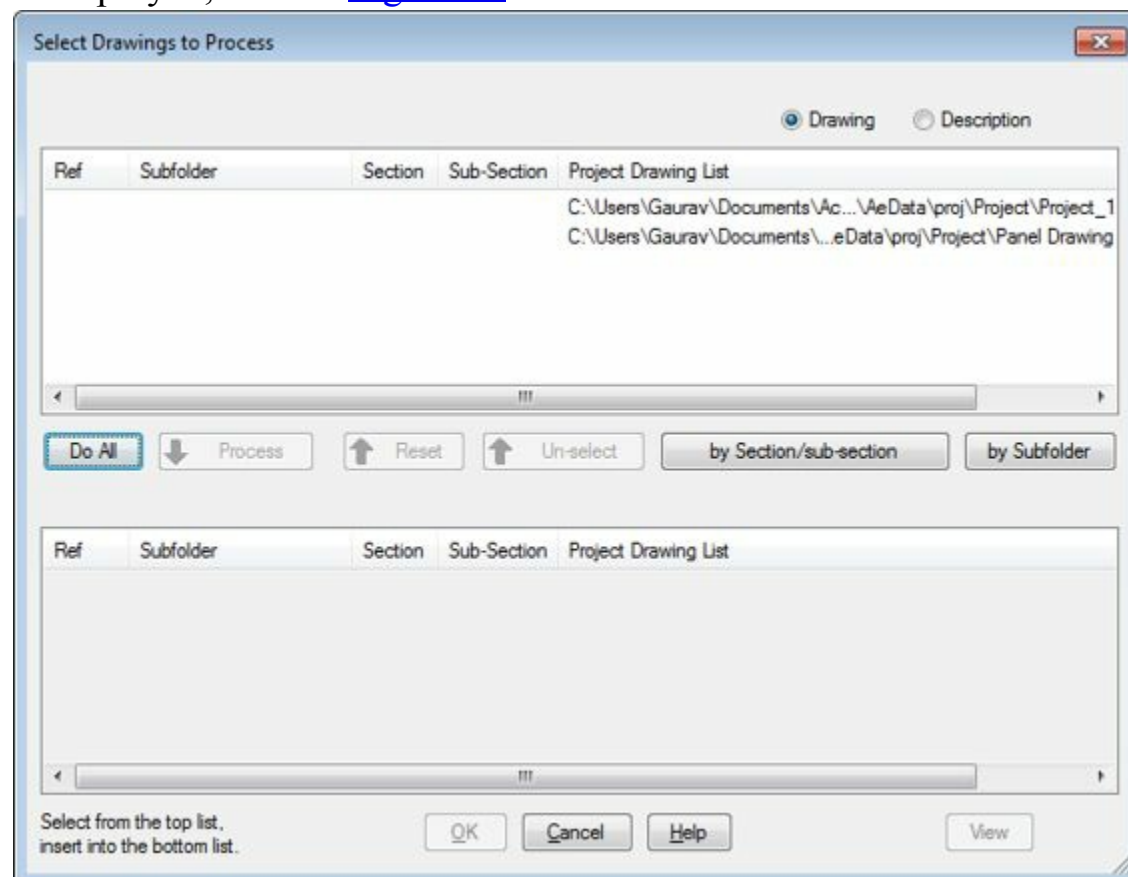

Figure-30. Select Drawings to Process dialog box
- Click on the **OK** button from the dialog box. The **Select Drawings to Process** dialog box will be displayed; refer to Figure-30.